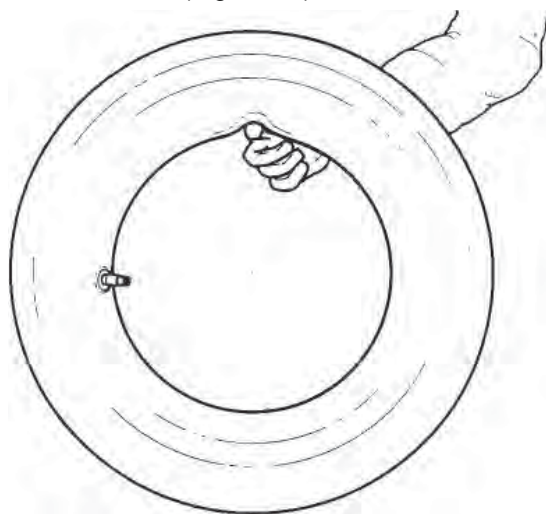

Fig. 5.1-2
**C.** Inflate the tube slightly: if held with the index finger it should bend a little (Fig. 5.1-2).